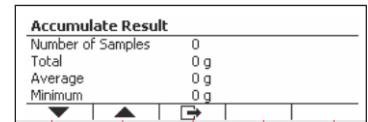

Figure 34
- When the message "Clear the statistical data?" appears, press the softkey corresponding to the \checkmark icon. (See Figure 34)